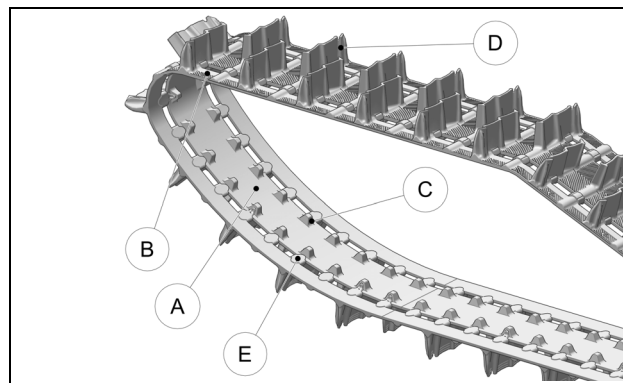

Figure 57
Verify wear on Track by inspecting the internal (A) and external (B) condition of the Track's carcass rolling path, driving lugs (C), the profile (D). Make sure that the Track's internal structure is not visible at cuts or in worn areas. Make sure the steel clips (E) are not abnormally worn. See Figure 57.